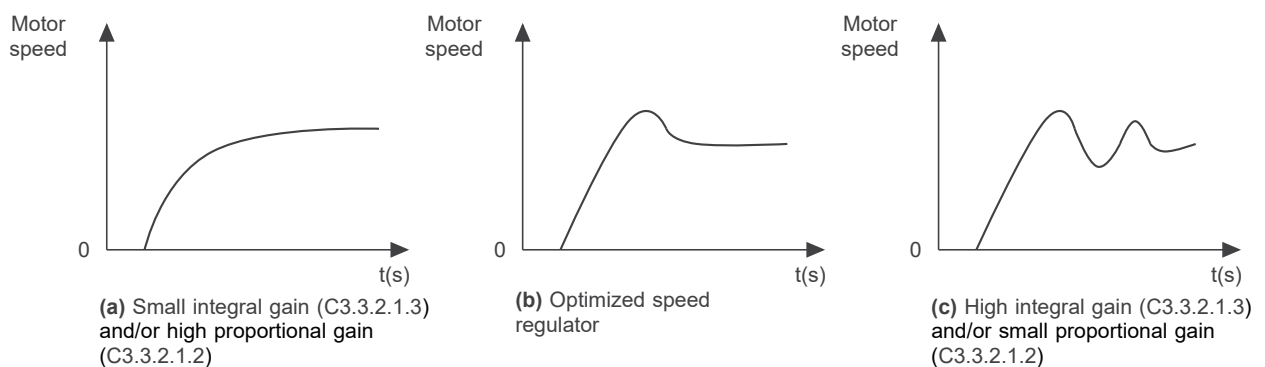

Figure 11.10: (a), (b) and (c) - Types of speed regulator response
6. Check among the options in Figure 11.10 on page 11-26 which waveform best represents the read signal.
7. Set C3.3.2.1.2 and C3.3.2.1.3 according to the type of response shown in Figure 11.10 on page 11-26.